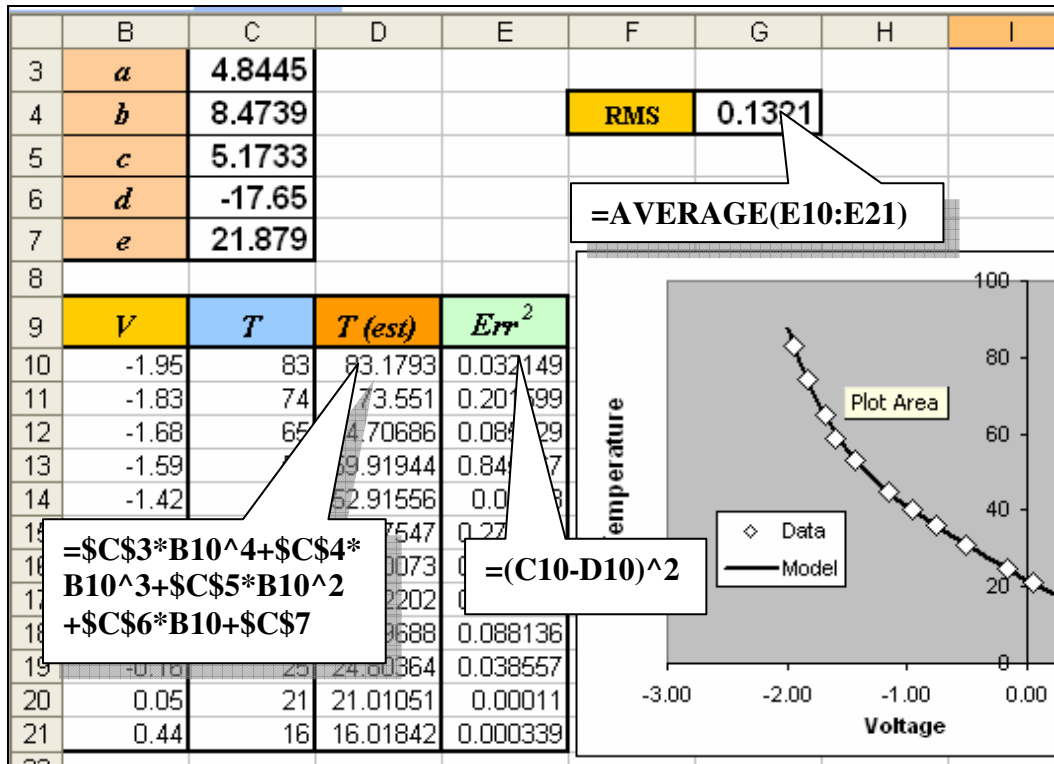

Figure 5.
4. Obtain a polynomial fit of temperature as a function of voltage. (see Figure 5 for an example Excel spreadsheet where the model is a fourth-order polynomial given by : $T = a V^4 + b V^3 + c V^2 + d V + e$, then use SOLVER to minimize RMS).